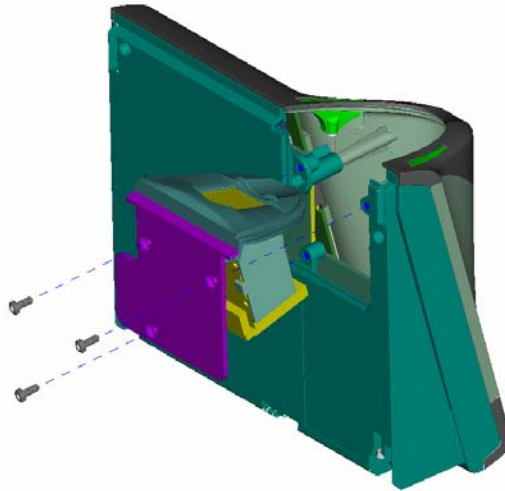

Figure 7-4: Removal of Sensor Module from V-Station 4G Device
3. Remove the three Philips screws, as shown in Figure 7-4.